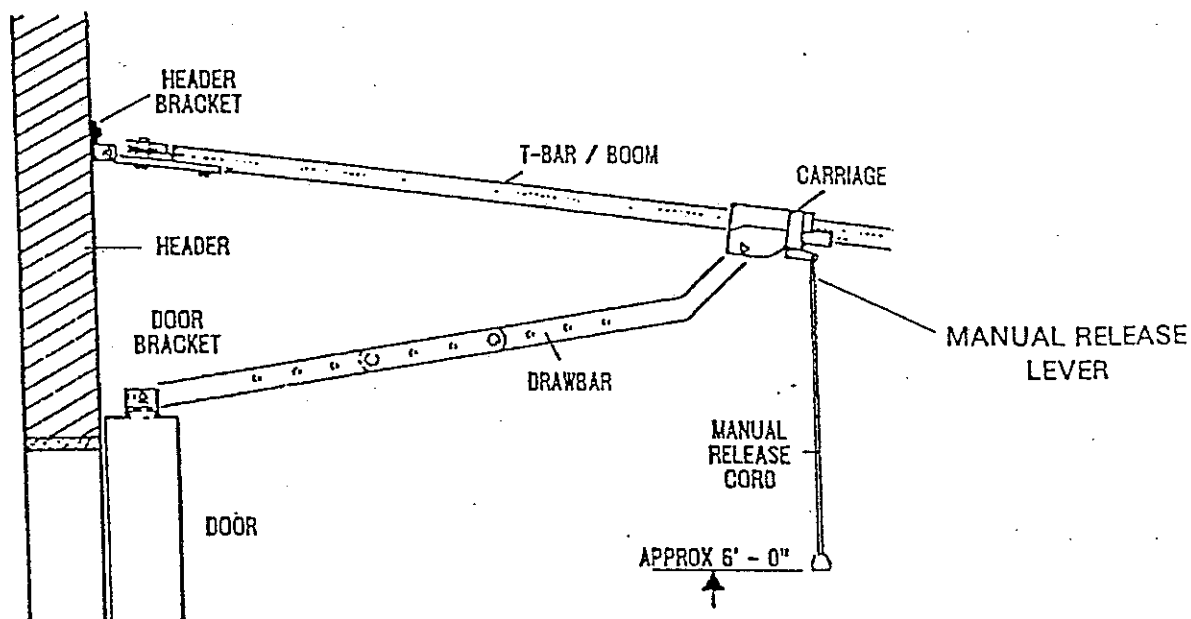

FIGURE 4
2. To reconnect the opener, place the manual release lever (Figure 4, Page 14) in the horizontal position and run the opener. It will automatically reconnect.